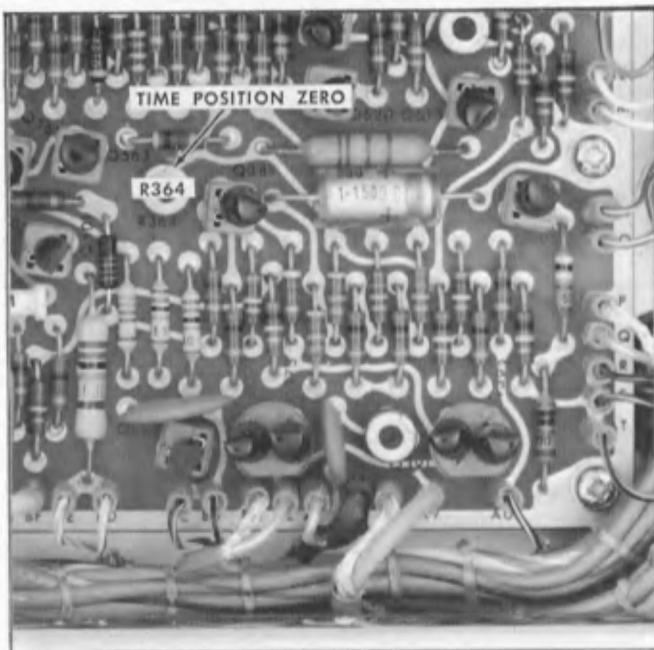

Fig. 7-25. Location of Time Position Zero adjustment, Logic Board Assembly, left side of instrument.
d. Adjust R364, TIME POSITION ZERO, (Fig. 7-25 shows the location) for the most counterclockwise setting possible with the TIME POSITION control fully clockwise and the start of the sweep at the left edge of the graticule.